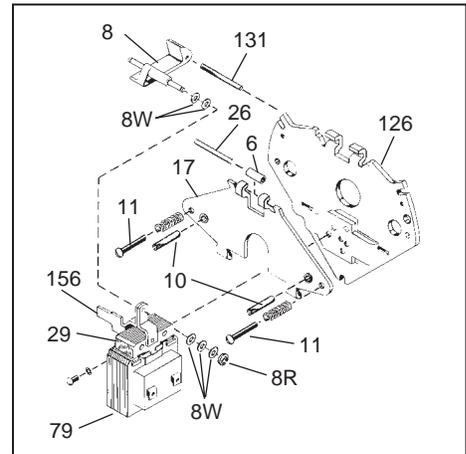

Figure 3
Preconnect coil for appropriate high or low voltage as shown in Figure 3. On these coils observe the lead numbering sequence for proper connections as follows:
1. Refer to Figures 3 and 8. Insert screwdriver between support plate (126) and lever arm (17). Wedge apart and remove bearing pin (26), bearing (6), pin (131) and solenoid lever (8), connected to solenoid link (156) and plunger (29).